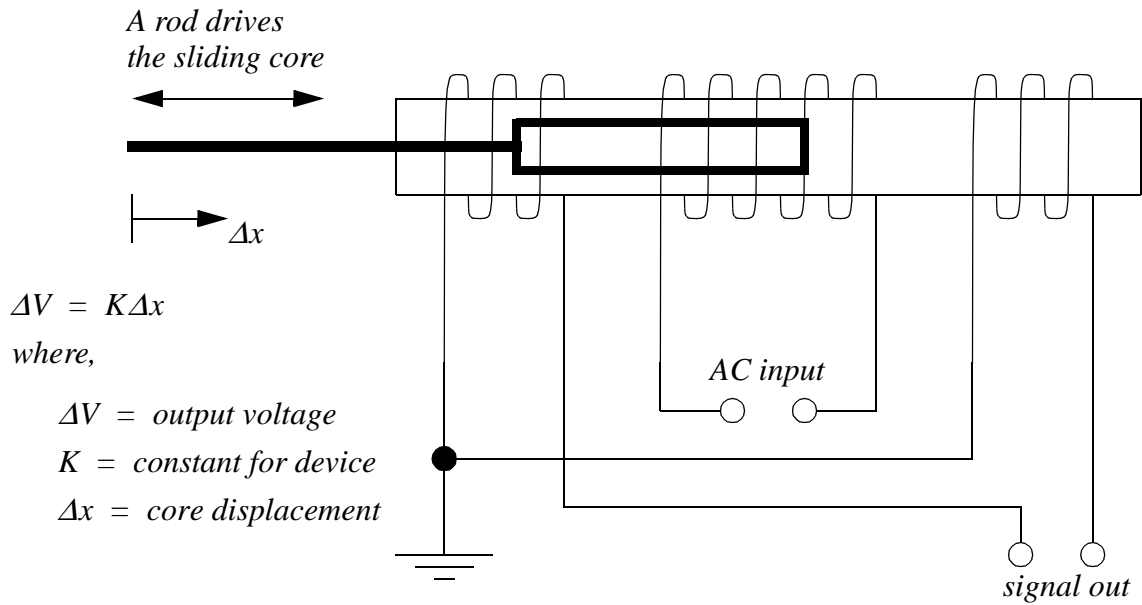

Figure 14.8 An LVDT
Linear Variable Differential Transformers (LVDTs) measure linear displacements over a limited range. The basic device is shown in Figure 14.8. It consists of outer coils with an inner moving magnetic core. High frequency alternating current (AC) is applied to the center coil. This generates a magnetic field that induces a current in the two outside coils. The core will pull the magnetic field towards it, so in the figure more current will be induced in the left hand coil. The outside coils are wound in opposite directions so that when the core is in the center the induced currents cancel, and the signal out is zero (0Vac). The magnitude of the *signal out* voltage on either line indicates the position of the core. Near the center of motion the change in voltage is proportional to the displacement. But, further from the center the relationship becomes nonlinear.